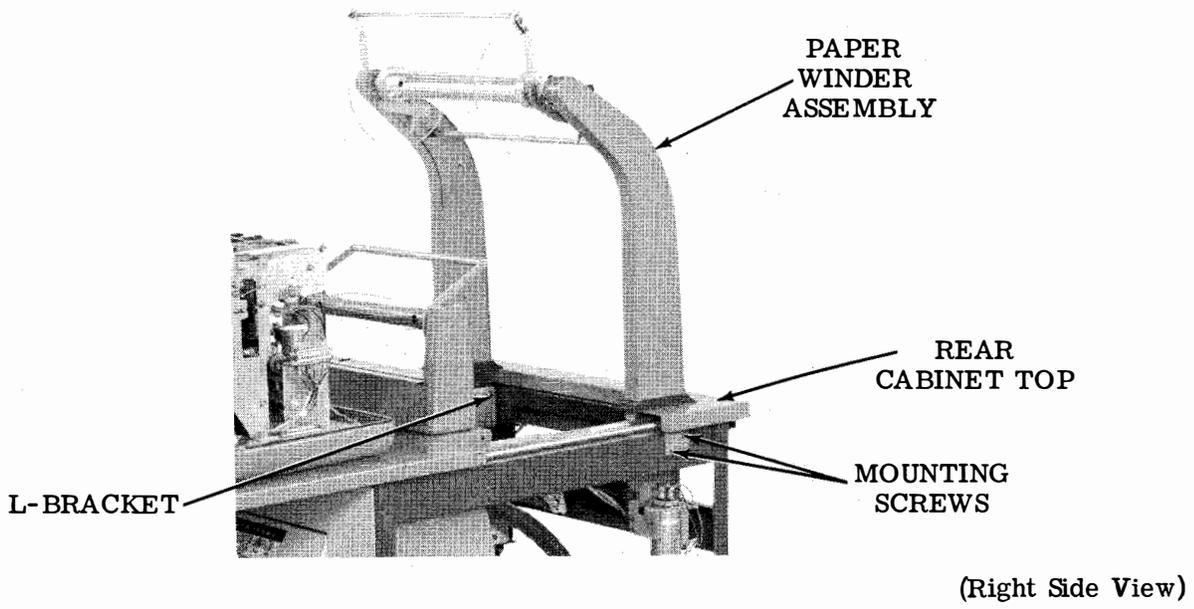
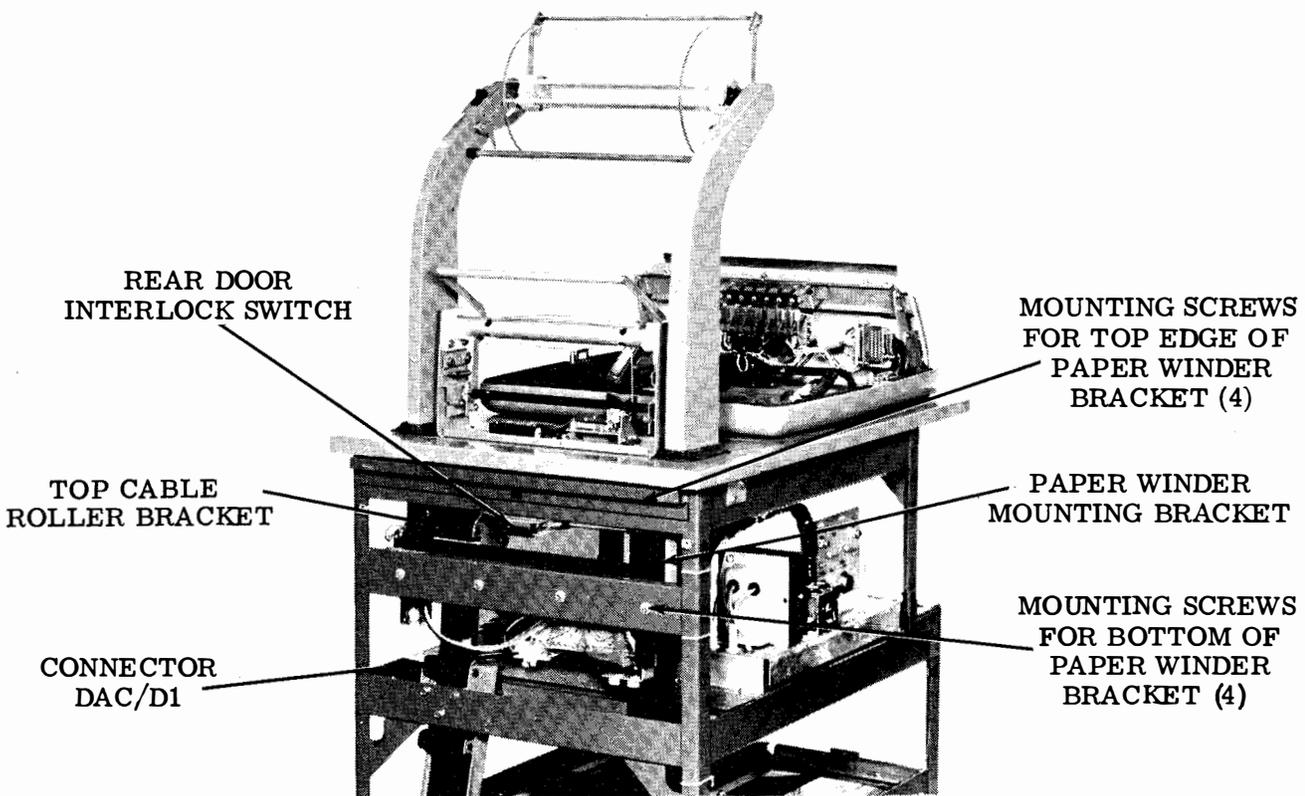

Figure 9 - Paper Winder Assembly, Panels Removed and Top Shelf Extended
Figure 10 - Paper Winder Assembly
(1) With the side panels removed, unscrew the four TP151631 screws, TP2191 lockwashers, and TP151610 flat washers that hold the rear cabinet top to the frame (Figure 9), and lift the rear cabinet top away from the frame.
(2) Remove the two TP151631 screws, TP2191 lockwashers, and TP151610 flat washers in the L-brackets on the left and right arms of the paper winder. Loosen the TP5599 nuts that hold these brackets to the undersides of the top rails of the frame, and slide the brackets off the frame.
(3) Remove the two TP151637 screws, TP3640 lockwashers, and TP125011 flat washers that hold the rear door interlock switch (Figure 10) to the bracket on the underside of the upper perforated panel of the printer frame.